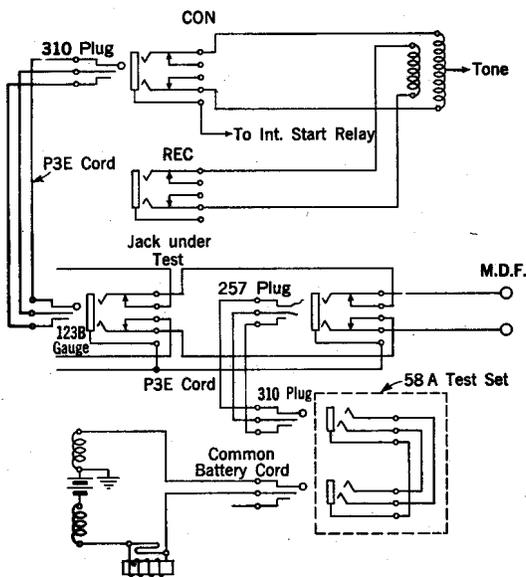

Fig. 1 - Test with A-C Continuity Test Circuit - Except First Jack
3.01 At the first jack (the jack nearest the M.D.F. end of the line), insert the 257-type plug into the jack with the white line on the plug on top. See Fig. 1. Insert the No. 310 plug of the same cord into a jack of the No. 58A test set.